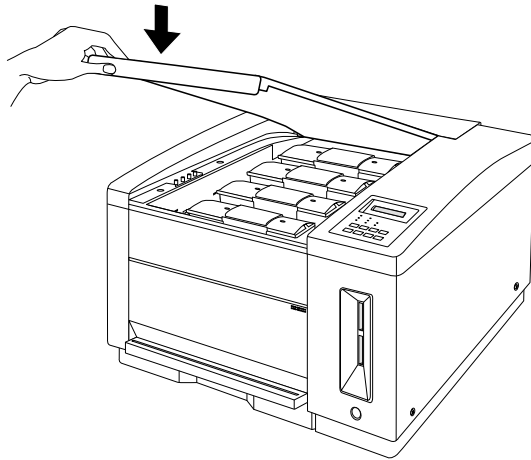

Fig. 2.21 *Replace the Top Cover (front view)*
10. Replace the top cover (fig. 2.21).